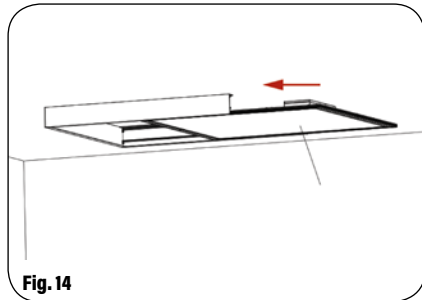

Fig. 14
5. Insert the panel into the surface mount. (Fig. 14)